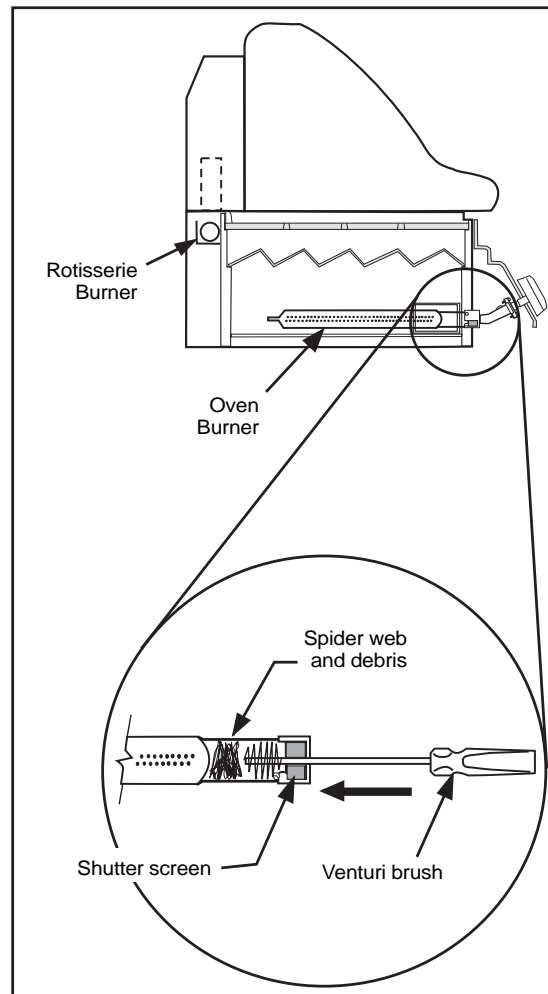

Fig. 15
WARNING: Always inspect the air shutter screen periodically to confirm that it is clear of food residue, spider webs or other insect debris. A clogged venturi tube can cause a fire to occur beneath the Grill, due to a flashback of gas (see Fig. 15).
- Loosen the burner attachment screws (from inside) to allow the burners to be pulled away from the valves far enough for a venturi brush or suitable cleaning device to be inserted into the burner venturi to clean away debris (see Fig. 15). Be careful not to damage the electrode ceramics.